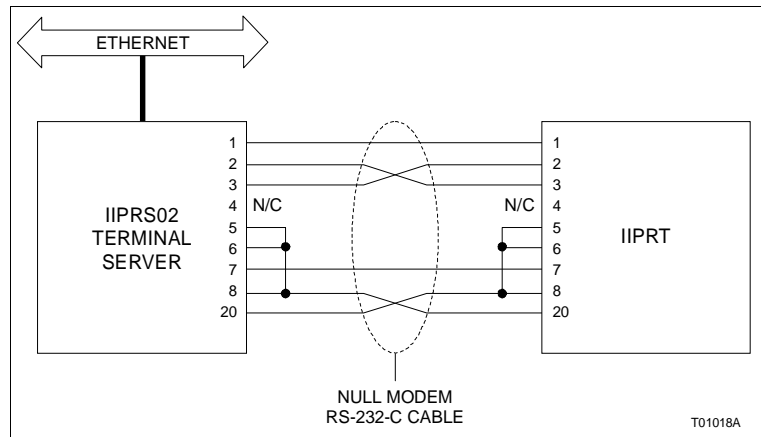

Figure PR39-1. Printer Cable Configuration
- 3. Connect one end of the printer cable to the DB-25 serial connector of the printer (Fig. PR39-1).